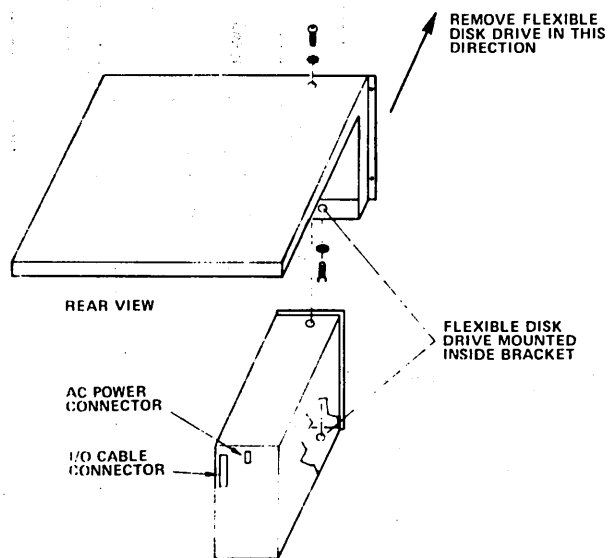

Figure 6-4. Flexible Disk Drive Mounting
4. Note the location of the cables and disconnect them from the drive (figure 6-4).